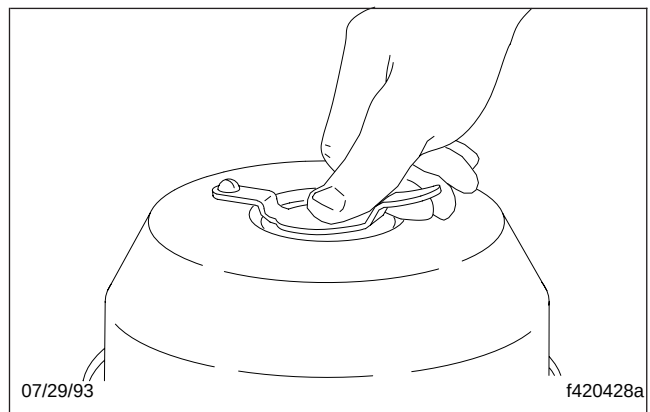

Fig. 8, Snapping the end-cover Cap in Place
6. Snap the end-cover cap in place over the center-hole in the chamber head. See Fig. 8.